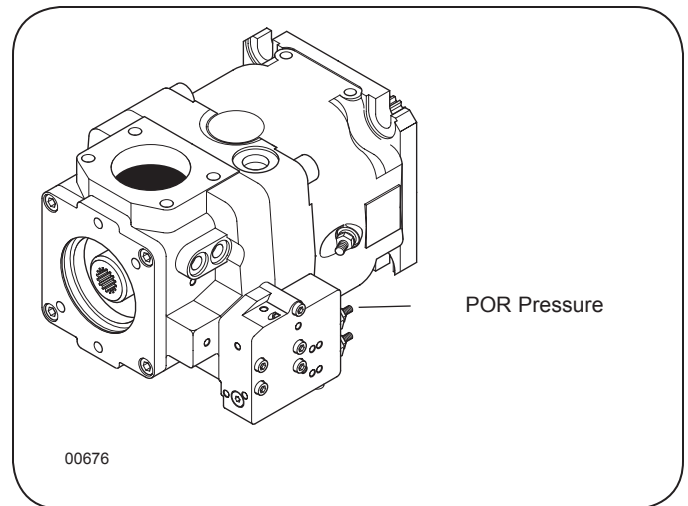

Figure 5: Implement Pump POR Pressure Adjustment
7. Use the 13 mm wrench to loosen the jam nut on the POR pressure adjustment setscrew. See Figure 5.